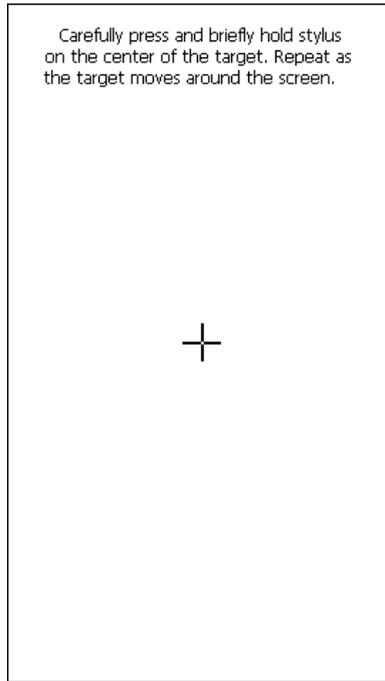

Figure 5.16.3 Screen Adjust
1. Click [**System Manage**], select [Screen Adjust], enter into it, as shown in figure 5.16.3.